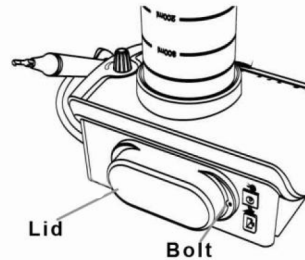

Fig 11
- b. Remove the bolt with screwdriver.(see figure 11)